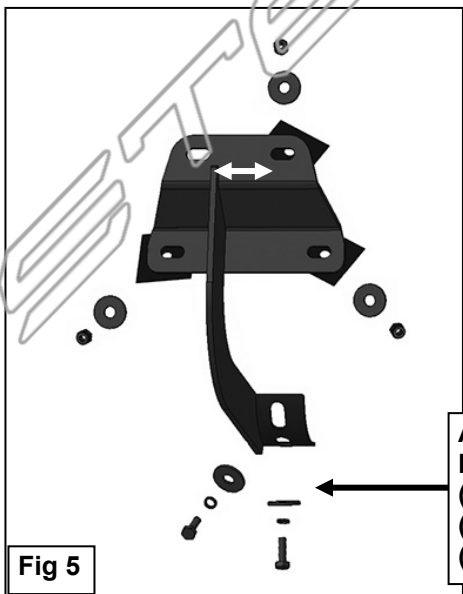

Fig 5
4. Repeat **Steps 1—3** to install the (2) remaining center and rear passenger side Brackets.
5. Select the passenger/right Sidebar. Carefully position the Sidebar onto the (3) Mounting Brackets.
IMPORTANT: Do not slide, (front to back or rotate), the Sidebar on the Brackets or damage to the finish on the Sidebar may result. Attach the Sidebar to the Mounting Brackets with (6) 8mm x 25mm Hex Bolts, (6) 8mm Lock Washers and (6) 8mm Flat Washers, (**Figure 5**). Do not tighten hardware.